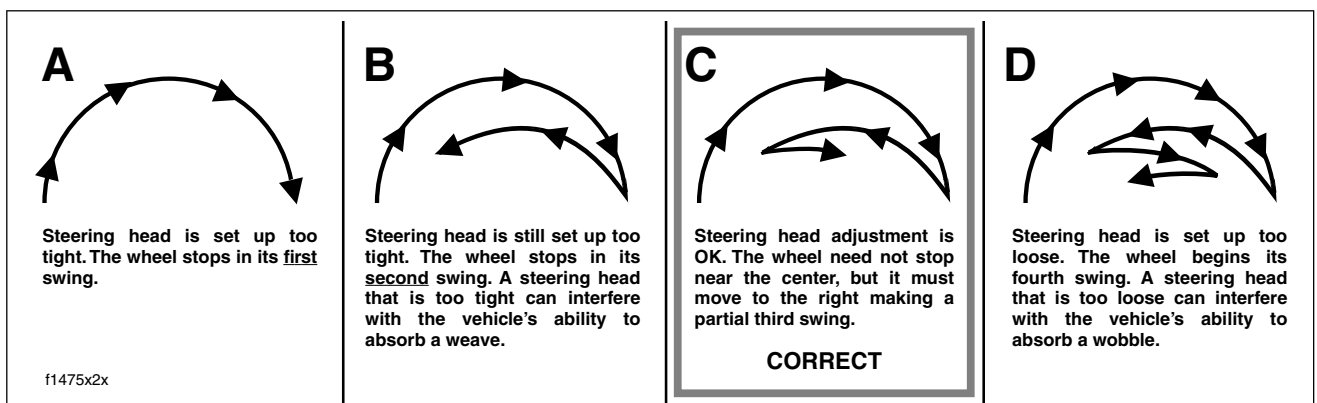

Figure 2-84. Check Steering Head Bearing Swing-By
- Turn the front wheel until contact is made with the left fork stop and then let go. The wheel should swing right, left, then right and stop. The wheel need not stop near the center or straight-forward position, but it must move to the right making a partial third swing. See frame C of Figure 2-84.